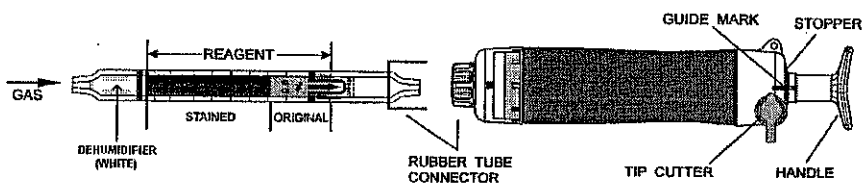

Fig.1
- ② Insert the detector tube into the aspirating pump securely as shown in Fig.1. (Arrow mark shall point to the pump.)
- ③ Align the guide marks on the shaft and stopper of the aspirating pump.
- ④ Pull the pump handle at a full stroke until it locks and wait for 1 minute or until the completion of sampling is confirmed with the flow indicator of the pump (See descriptions about the flow indicator in the instruction manual of the pump).
- ⑤ On completion of sampling, read the scale at the maximum point of the stained layer.
- ① Temperature; Correct the tube reading by following temperature correction table.